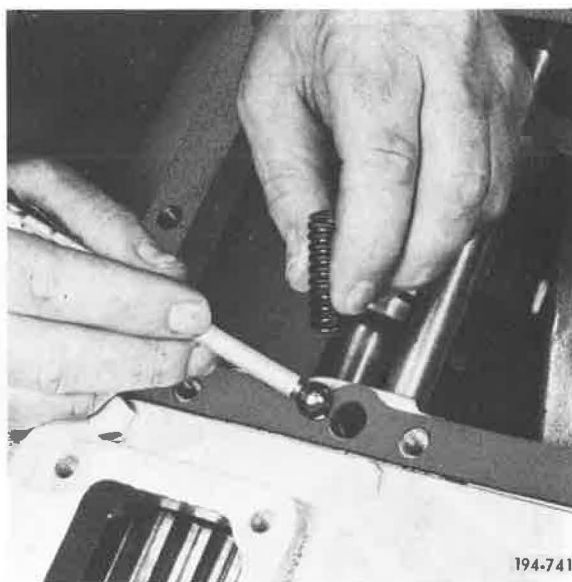

Figure 417. Installing Spring and Ball
35. Install front compound poppet ball and spring. See Figure 417.